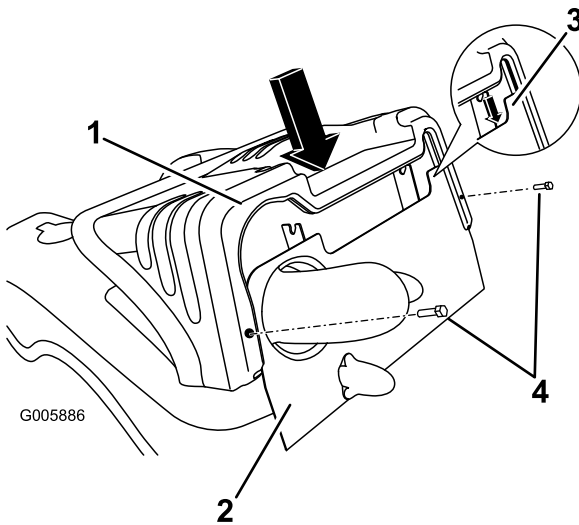

Figure 29
1. To install the hood, align the slot in the hood with the frame and carefully lower it onto the frame (Figure 29). Make sure the frame seated correctly in the engine hood groove before forcing the hood down. Push down gently to seat the retaining pin. Replace the fasteners removed previously.